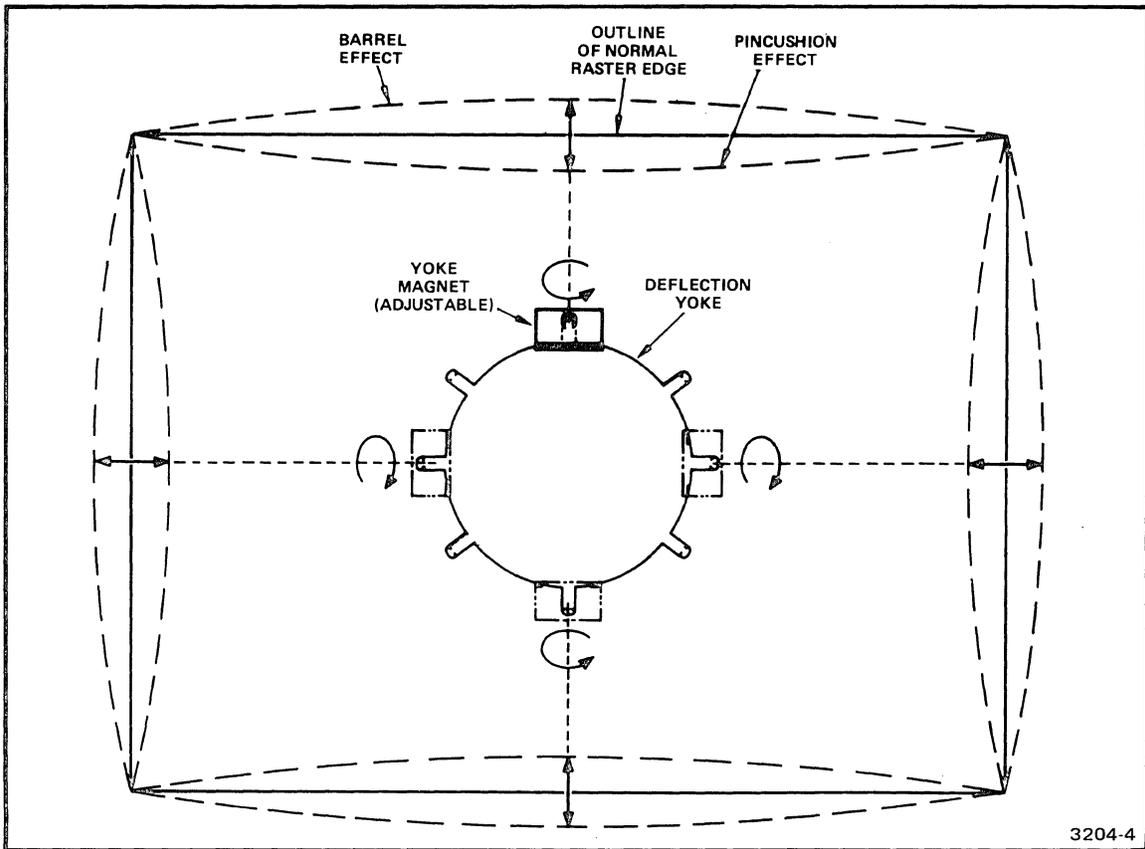

Figure 5-4. Pincushion/Barrel Effects and Adjustment.
Perform this adjustment if the raster exhibits the abnormal effects shown in Figure 5-4.
1. Push a magnet on the yoke mounting pin as shown in Figure 5-4. A magnet should be placed only on the pin that corresponds to the affected area.
2. Rotate the magnet to obtain the desired raster, labeled 'NORMAL' on Figure 5-4.